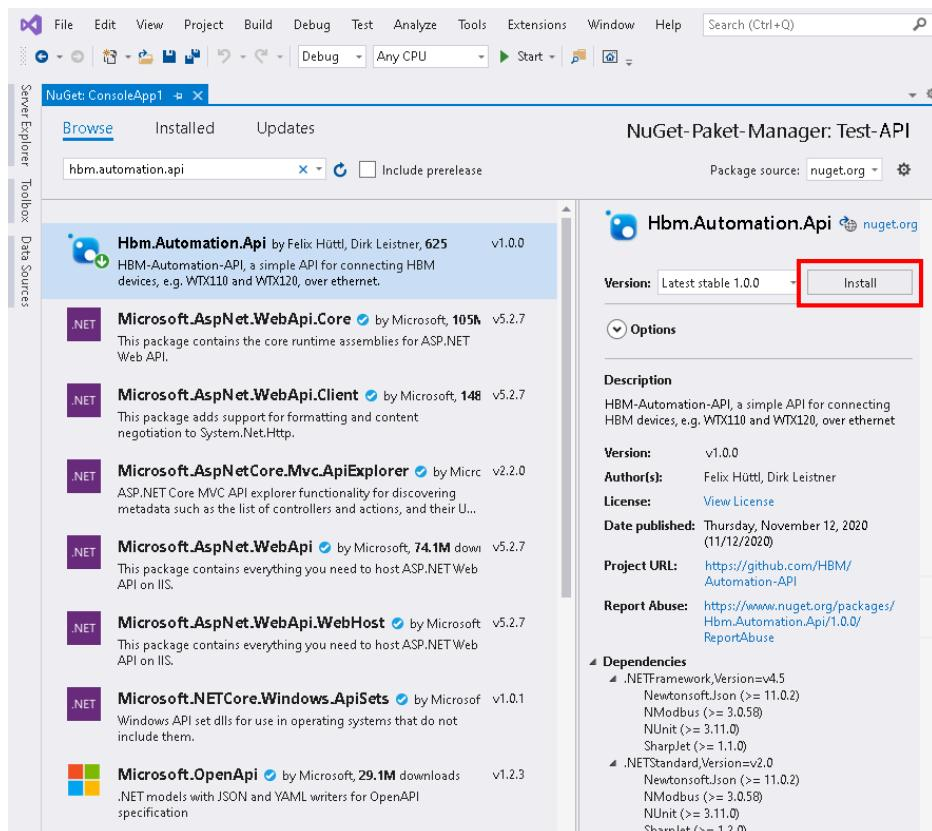

Fig. 4.3 *Installing the HBM Automation API*
- ▶ Select the entry and click **Install** (Fig. 4.3).